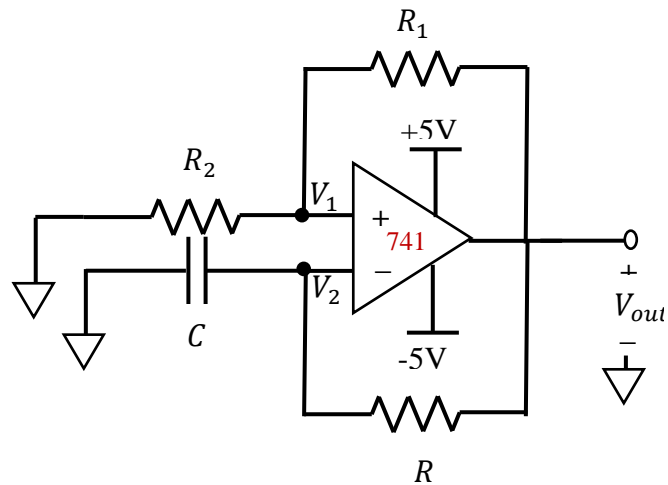

Figure 6.3 – An Op-amp based oscillating circuit
In this lab, we are going to use the circuit shown in Figure 6.3. The analysis of this circuit proceeds as follows. First, using the fact that the current flowing into the non-inverting terminal must be zero, it follows that the voltages V_1 and V_{out} must be related by a voltage divider,
A. Design the circuit of Figure 6.3 to oscillate at a frequency as near to $f_o = 0.5$ Hz as you can get it. Choose component values for R, C, R_1, R_2 that are available to you in your lab kit. Also, try to choose the values of R_1 and R_2 so they sum to a value as close as possible to $10k\Omega$. Note, the resistors (or the capacitor) do not necessarily have to be a single component. You can use parallel/series combinations to get the component values closer to where you would like them. **Specify your chosen component values and then calculate your expected values for the following quantities related to the voltage $V_2(t)$:**